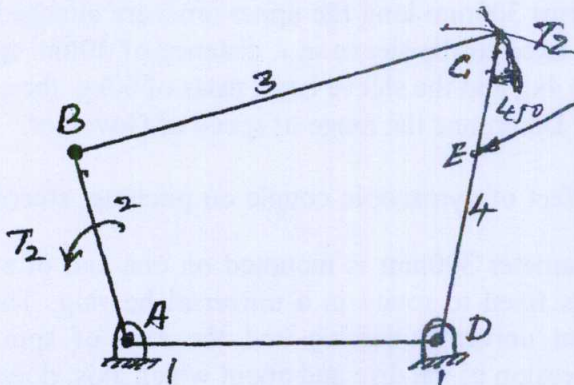

Fig. Q1(b)
b. A four mechanism under the action of external force is shown in Fig Q1(b). Determine the Torque T_2 and various forces on link for the equilibrium of the system. (16 Marks)